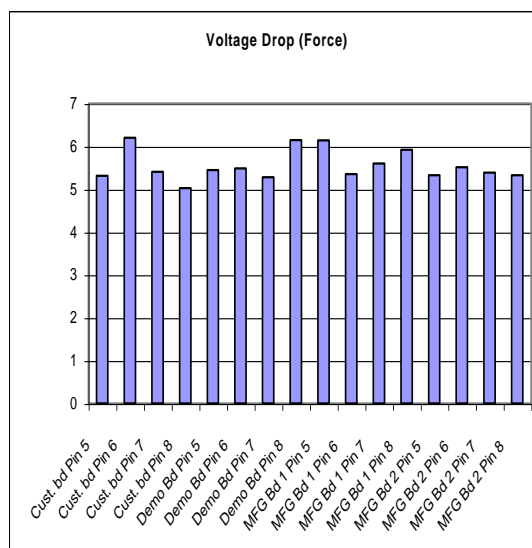

Figure 1
Figures 1 and 2 show the result of an experiment that was conducted to measure and compare the voltage drop on the Node and Pin side relay contacts. These measurements were taken on the Force and Sense lines. A total of 4 CPM boards were used for this experiment, one of which was a customer board that had been in use for 16 years. The other boards used for comparison came from a Reedholm demonstration system and from manufacturing spares (2). They ranged in age from 10 to 18 years.